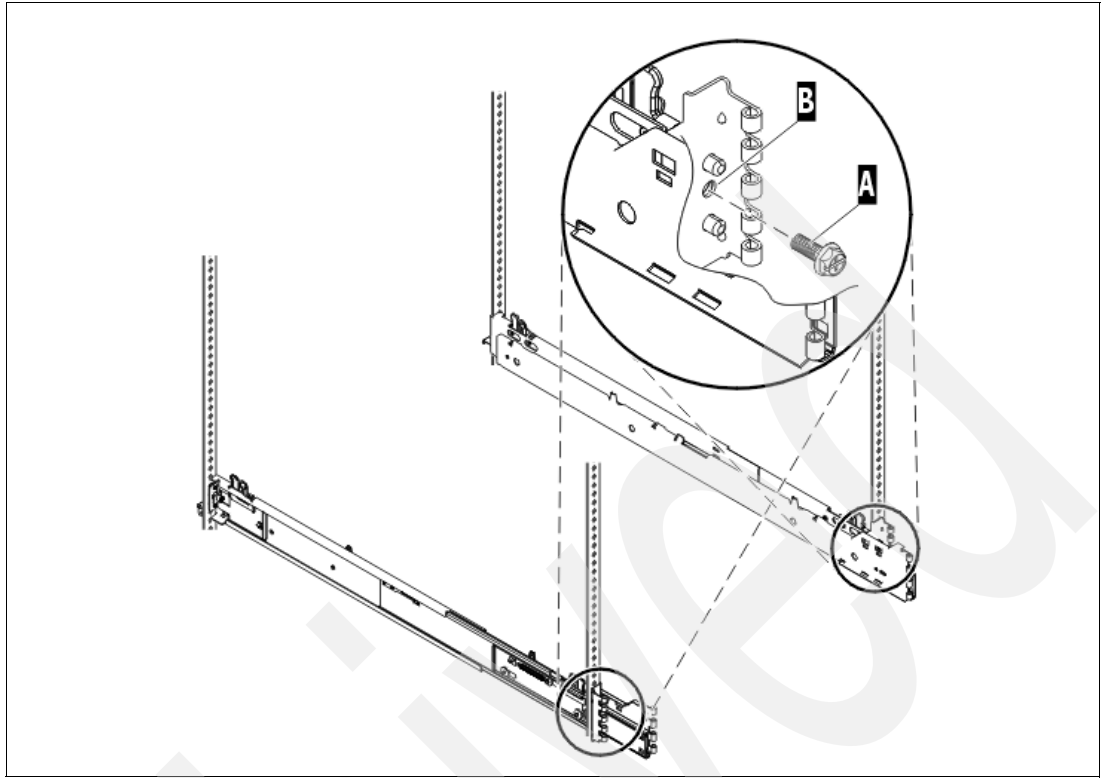

Figure 2-16 Secure the system rails
9. Refer to Figure 2-16 to see how to secure the system rails in the rack.